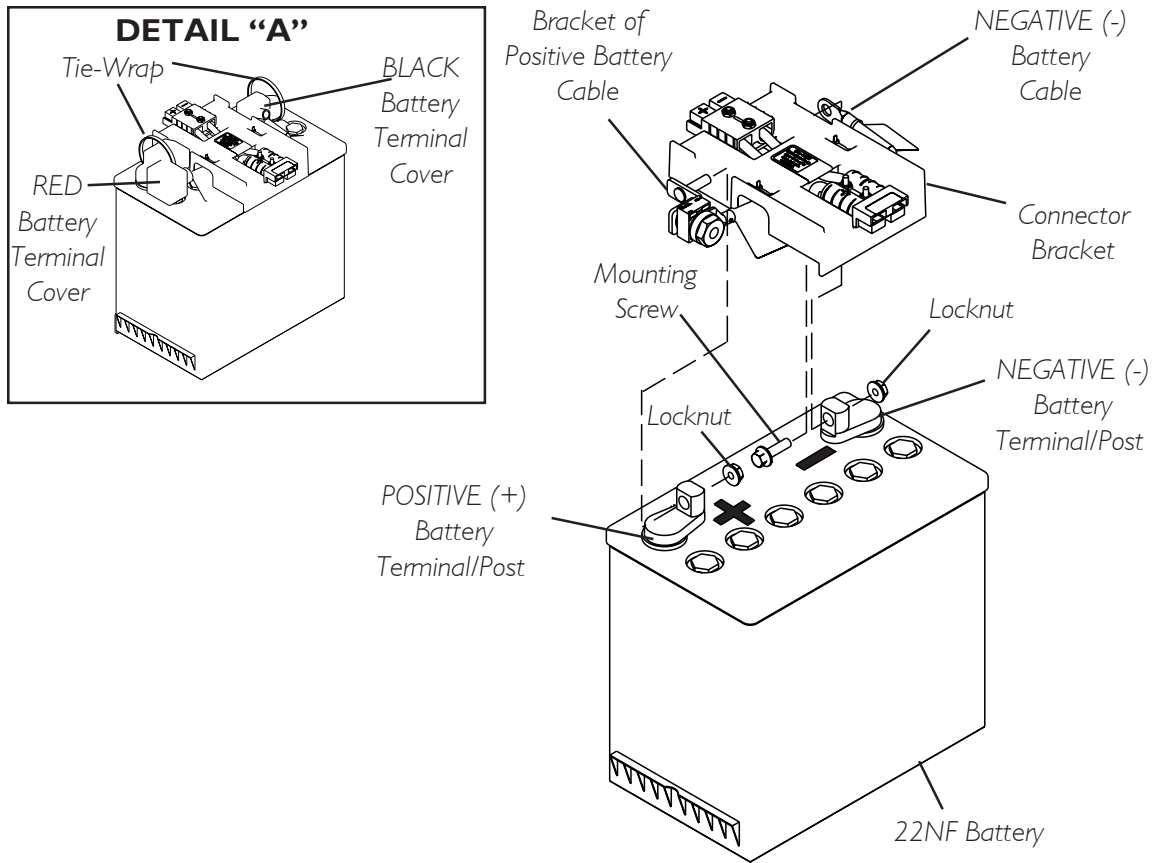

FIGURE 8 - REPLACING 22NF BATTERIES - REAR BATTERY WITH CONNECTOR BRACKET
22NF BATTERIES**Rear Battery with Connector Bracket (FIGURE 8).**
2. Cut the tie-wraps that secure the battery terminal covers to the battery terminals. Refer to Detail “A” in FIGURE 8.
3. Perform the following:(Detail “A” in FIGURE 8)